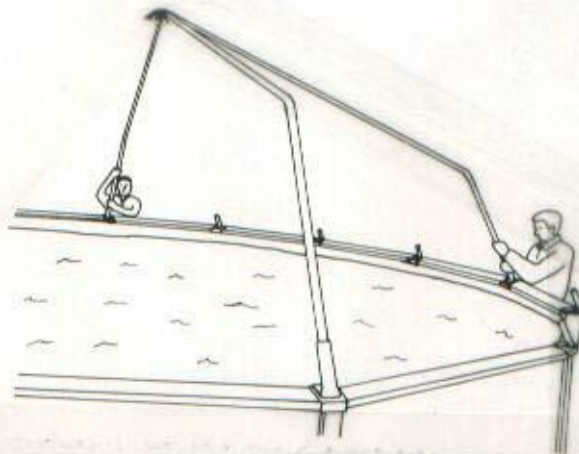

FIGURE 10
- F. Finish installing all rafter sets. See Figure 10.
H. Finish installing all adjusted rafter sets. See Figure 10, page 11.
- H. Finish installing all adjusted rafter sets. See Figure 10, page 11.